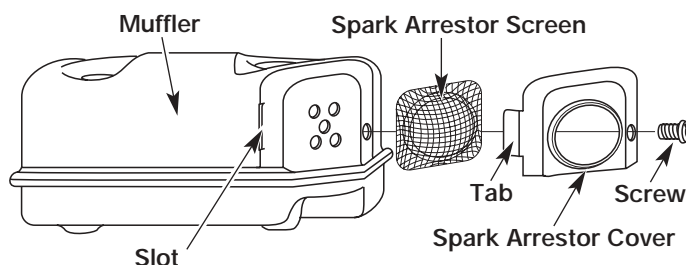

Fig. 74
2. With a flat blade screwdriver or Torx T-20 bit, remove the screw attaching the spark arrestor cover to the muffler (Fig. 74).